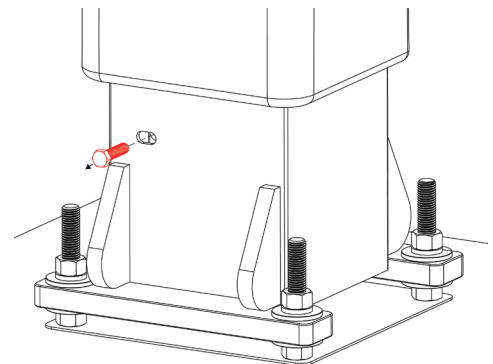

Figure 13
- STEP 7:** Once the system is upright and tightened, remove the Safety Bolt (marked with a red sticker) on the courtside of the Base Pole. See Figure 13. \*This must be done before moving onto the next step.